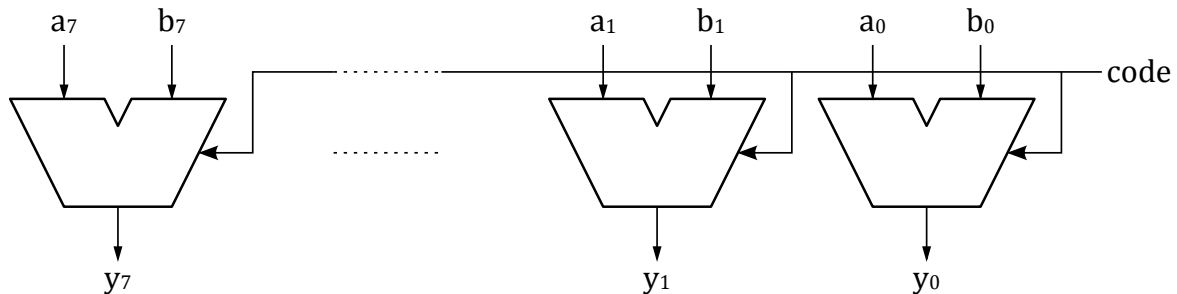

Figure 1 - Logical Unit LU
The Figure 1 shows the circuit of a Logical Unit (LU) of a microprocessor. The logical operations are performed bit by bit. Eight of these blocks form an 8-bit LU.
Implement the circuit of the LU of Figure 1. Some circuit elements are already given in the block **ALU/LU1**. Complete the missing input connection from the Multiplexer which should be connected either be a logical "0" or logical "1". These values can be generated by the elements **gates/logic0** respectively **gates/logic1**.